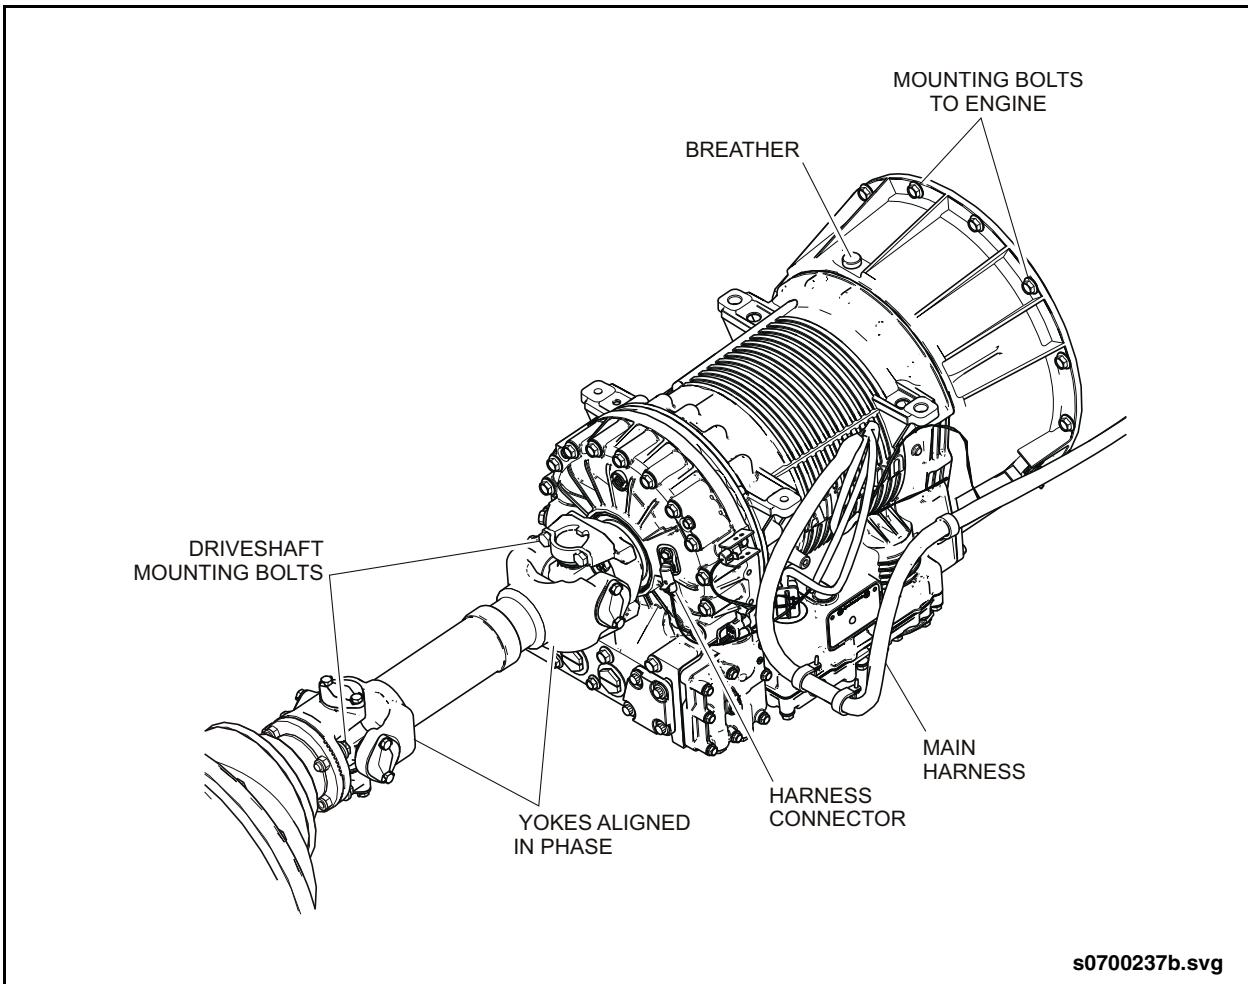

Fig. PM-6: Transmission Inspection
- Worn or frayed electrical harnesses, improper routing. See “Fig. PM-6: Transmission Inspection” on page 29.